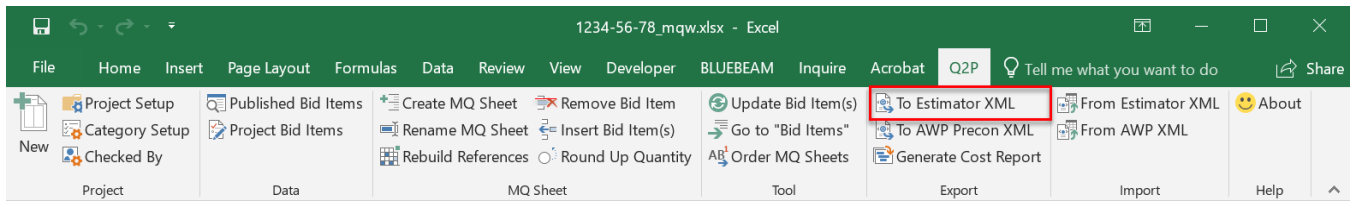
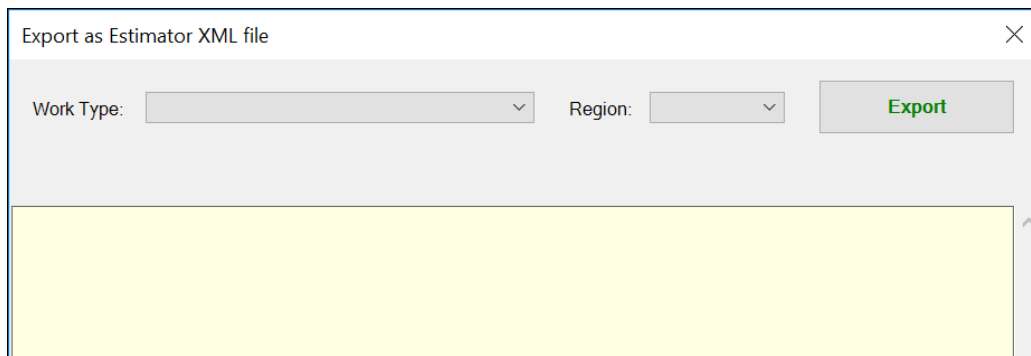

Figure 11.1 Importing Q2P into Estimator help.
Figure 11.2 “Export as Estimator XML file” dialog box.
1. Select **Q2P > Export > To Estimator XML** (Figure 11.1). This command will bring up the “Export as Estimator XML file” dialog box (Figure 11.2).